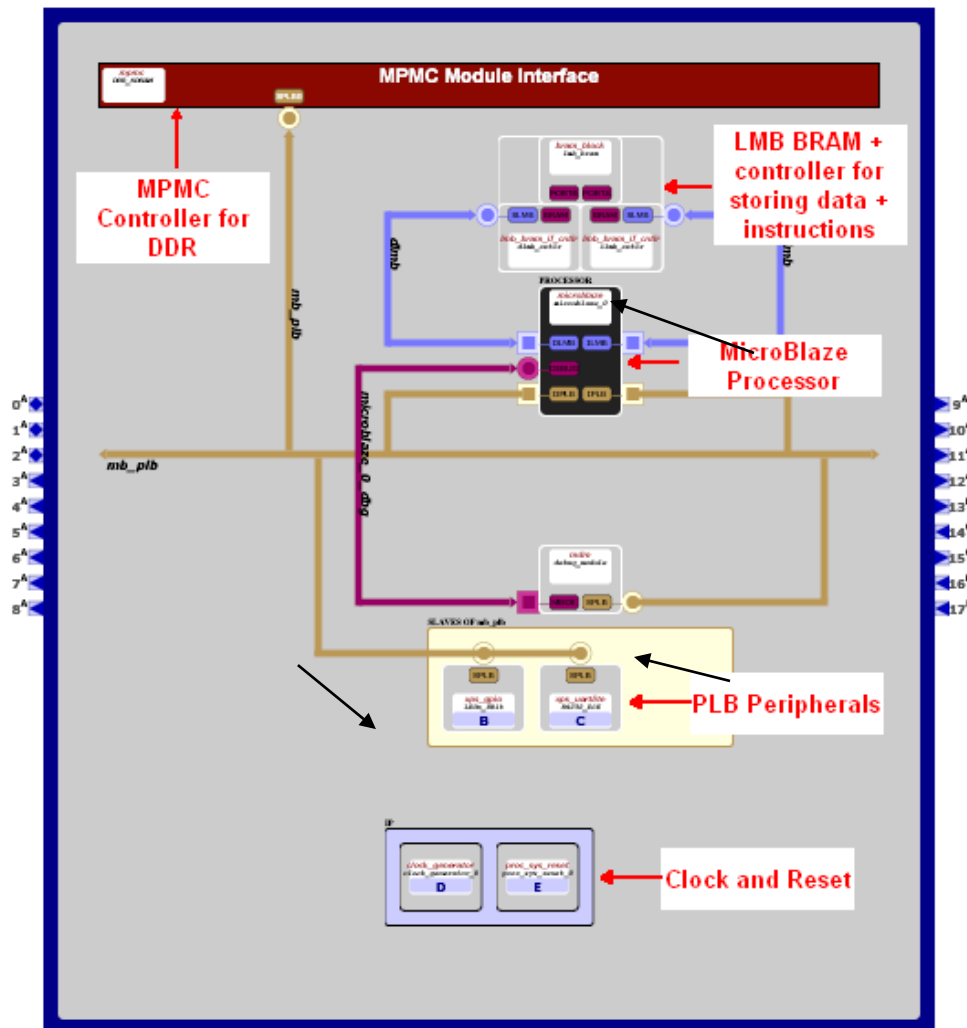

Figure 1-15. Block Diagram View of the Generated Project
- Click on the **Block Diagram tab** to open a block diagram view (**Figure 1-15**) and observe the various components that are used in the design